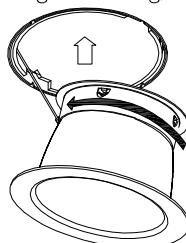

Fig.7
- 2a. Downlight: Insert Trim as shown in Fig. 7 by pulling tether taut against Trim, wrapping tether around trim, and simultaneously inserting Trim into Finishing Section (C3L085DL\_SERIES).